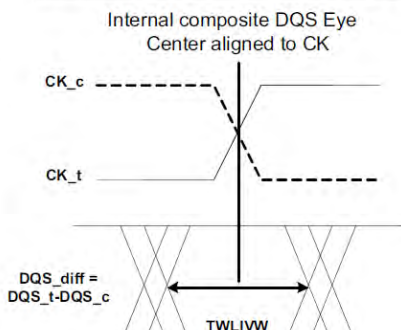

Figure 26. DQS_t/DQS_c to CK_t/CK_c timings at the DRAM pins referenced from the internal latch
- The DQS input mask for timing with respect to CK is shown in Figure 26. The "total" mask (tWLIVW) defines the time the input signal must not encroach in order for the DQS input to be successfully captured by CK with a BER of lower than tbd. The mask is a receiver property and it is not the valid data-eye.